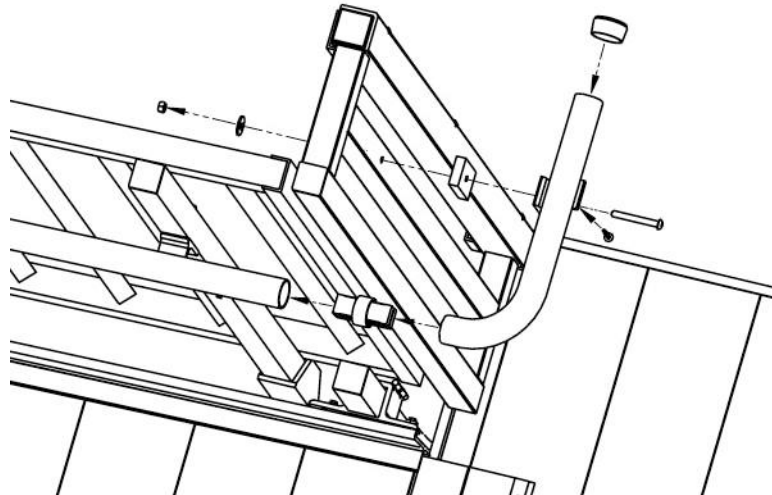

FIG. 42
- 8.5 At a turn platform at top of system on inside turn side (FIG. 42):